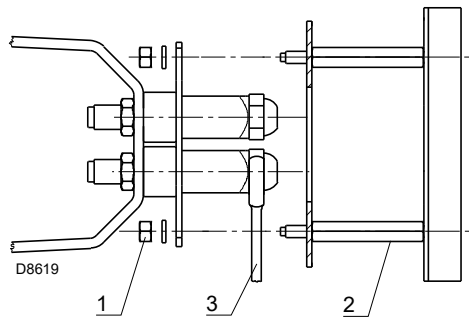

Fig. 12
- Remove the nuts 1)(Fig. 12) and the diffuser disc assembly 2)
- Use spanner 3)(Fig. 12) to change the nozzles.